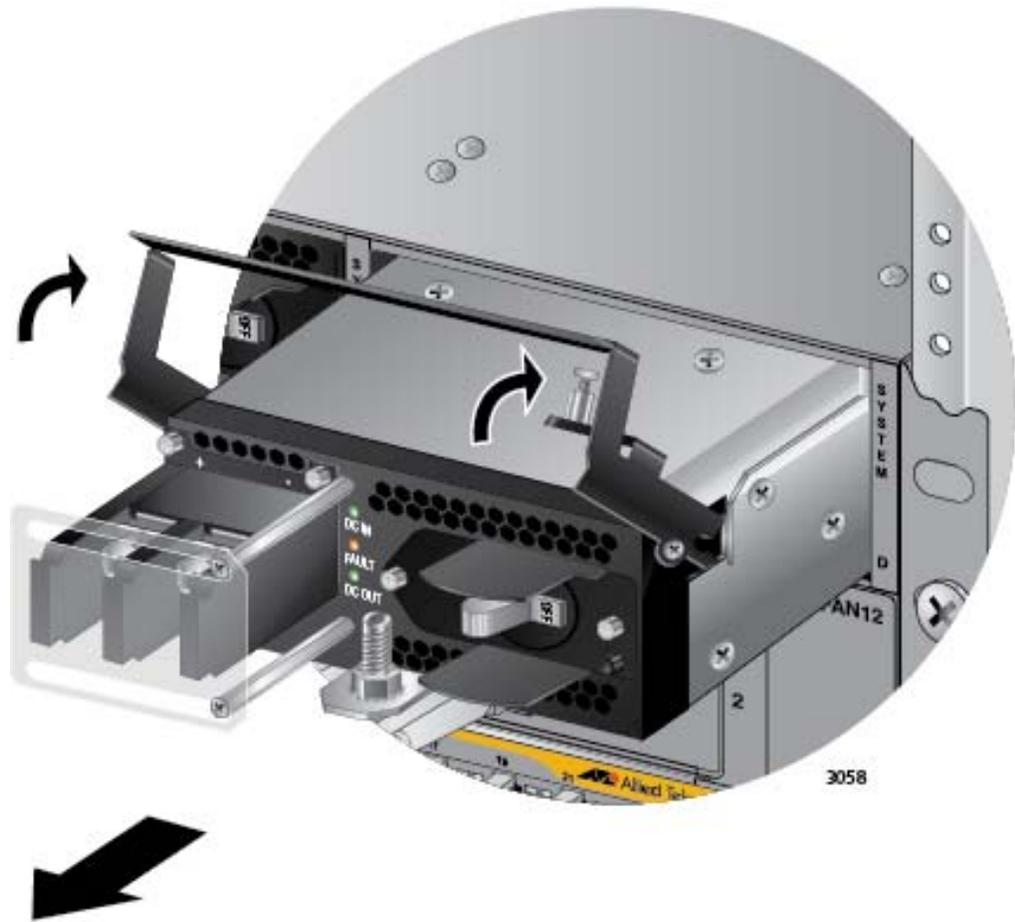

Figure 158. Lifting the Locking Handle and Removing the Power Supply
11. Lift the locking handle and slide the power supply from the chassis. Refer to Figure 158 on page 250.